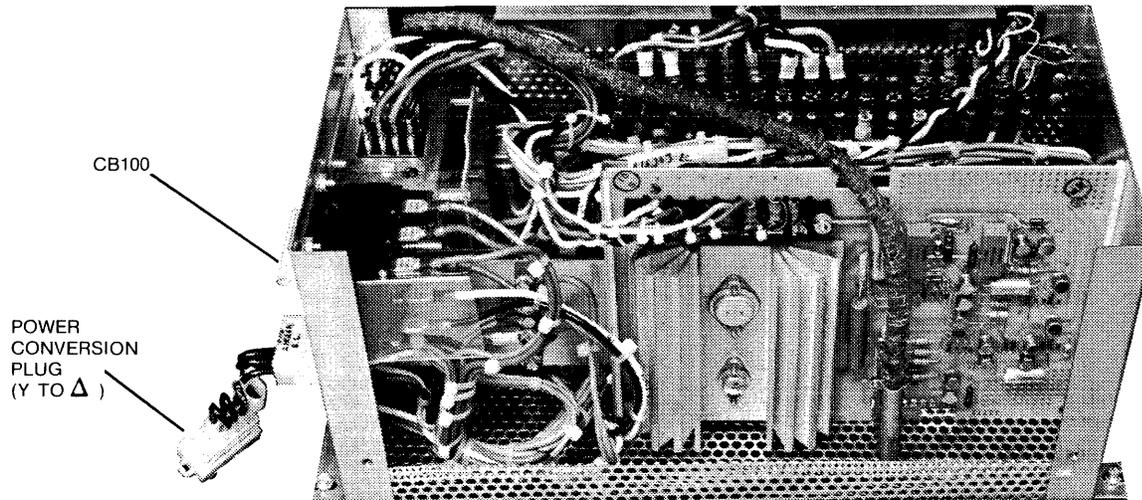

FIGURE 2-8. FRONT VIEW, PDU COVER OFF
- ✓ 5. Check terminal boards in the power distribution unit, located at the front of the drive (see Figure 2-8). To access into the PDU, its cover must be removed by removing two screws and lifting out; the cover's rear edge has a plastic lip that slides under a bracket in the housing.
By proper connection of the power conversion plug (Figure 2-8) to the PDU, the drive's power configuration can be made compatible with the power source at the user site. Read the instructions etched onto the plug itself, and insert the plug appropriately.
- 1. Set CB100 on the PDU to ON (see Figure 2-8).